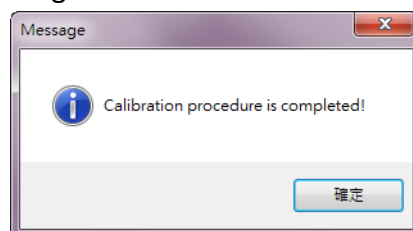

Figure 6-4 Calibration successful message
4. If the calibration is successful, the message shown in Figure 6-4 will be displayed. Press the "OK" button to end the calibration.